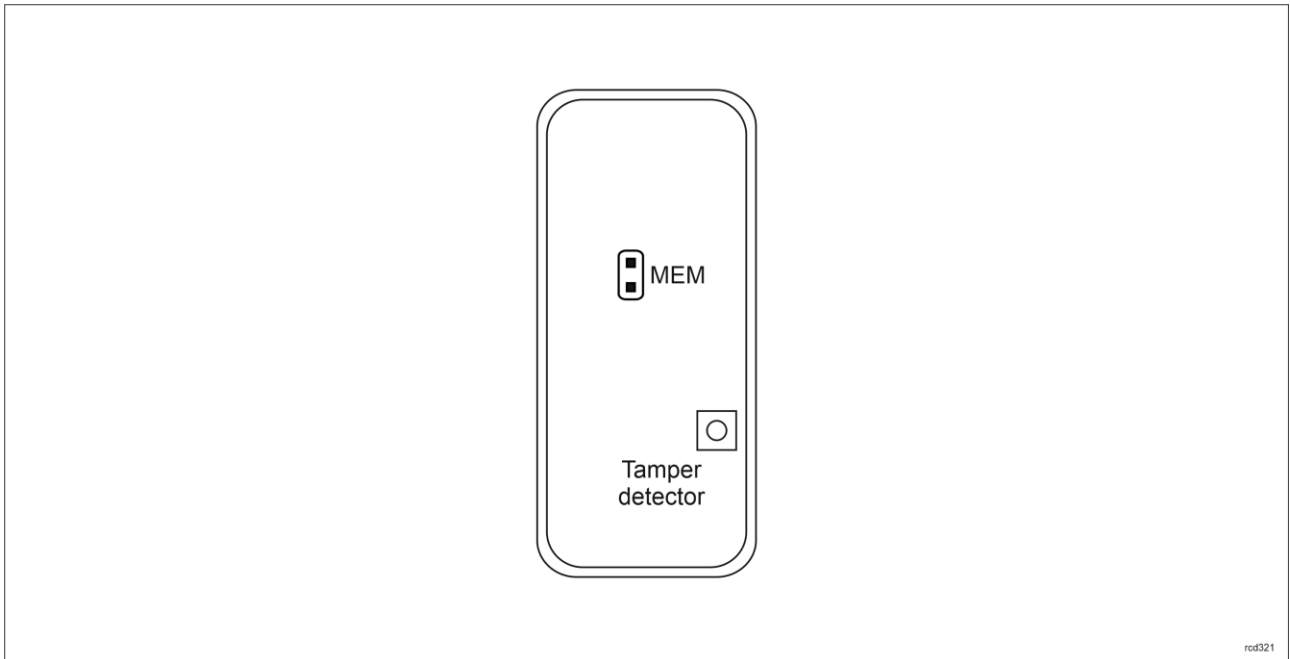

Fig. 5 Programming jumpers
Built-in tamper (sabotage) detector enables detection of unauthorized opening of device's enclosure as well as detachment of the enclosure from wall. The detector is internally connected to the terminal's input. It does not require low level configuration (RogerVDM) or any additional installation arrangements, but it is essential to mount front panel in such way as the tamper detector (fig. 5) would firmly press the back panel.
- Front panel should be attached in such way as the tamper detector (fig. 5) would firmly press the back panel.
2. Remove jumper from MEM contacts (fig. 5) if it is placed there.